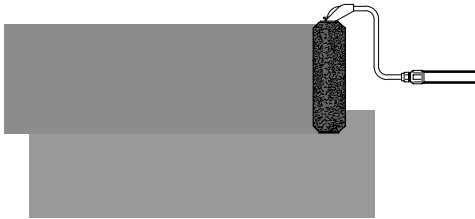

Fig. 3
2. Cross roll, horizontally, to spread paint. (Fig. 3.)